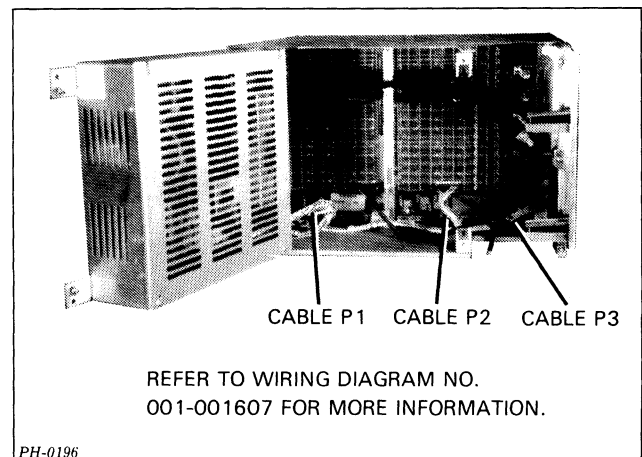

Figure 12.20 Rear of 16-slot chassis with VNR unit and wiring harness exposed
2. Remove the 2 screws on cable P1. Unplug cables P1, P2, and P3, and remove the wiring harness. (See Figure 12.20 and wiring diagram No. 001-001607.)
3. Plug in cables P1, P2, and P3 of the new wiring harness in the proper sockets. (See Figure 12.20 and wiring diagram No. 001-001607.) Replace the 2 screws on cable P1.